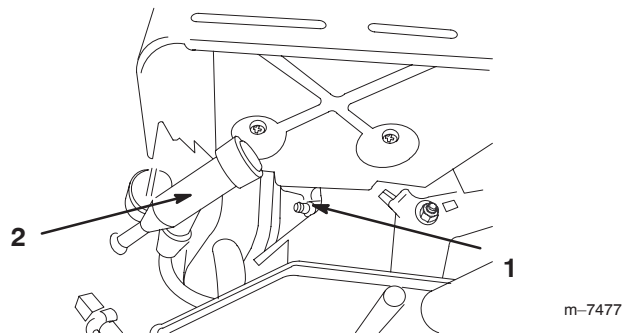

Figure 52
3. Pull the wire off of the spark plug (Fig. 52).
3. Push the wire onto the spark plug (Fig. 52).